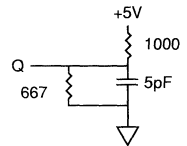

Fig. 2 OUTPUT LOAD EQUIVALENT
6. ^tHZCS, ^tHZOE, and ^tHZWE are specified with C_L = 5pF as in Fig. 2. Transition is measured ± 500mV from steady state voltage.